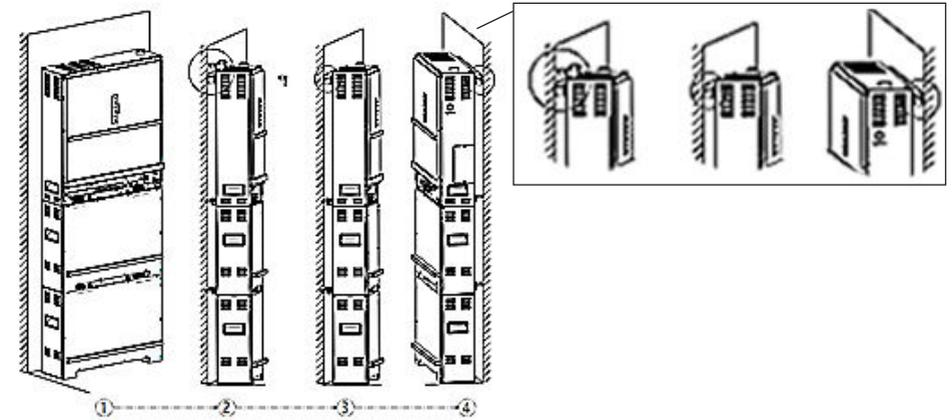

Figure 6
- 1.Stack inverter box gently on the top of battery, note the limit bottom hole , figure ① shown as above for reference.
- 2.Plug insertion board to connect inverter box and wall-hanging shelf together. see figure ② .
- 3.Tighten the M6*16 screw ensure inverter box is fixed to the wall, see figure ③④ .(Figure 6)